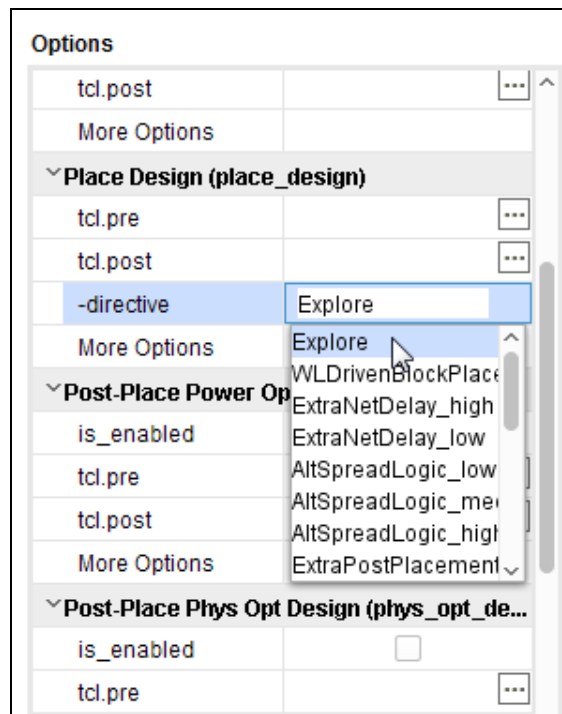

Figure 2-10: Edit Implementation Steps
7. Click the right-side column of a specific option to modify command options. See Figure 2-10, Edit Implementation Steps, immediately above for an example.